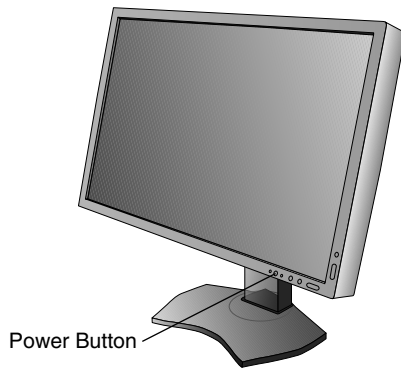

Figure E.1
- 9. Turn on the monitor with the front power button (**Figure E.1**) and the computer.